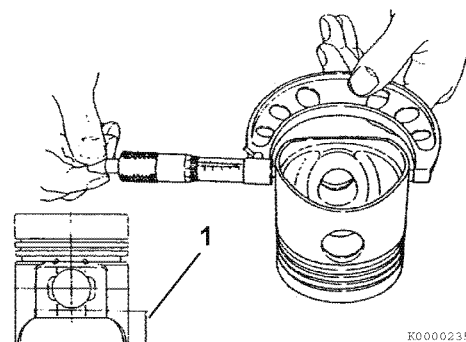

Figure 6-114
4. Measure the diameter of the piston skirt at 90° to the wrist pin bore as shown (Figure 6-114). Measurements must be taken at a specified distance (1, Figure 6-114) from the bottom of the piston, based on engine model. Record the measurements. See *Piston on page 6-13 for specifications*.